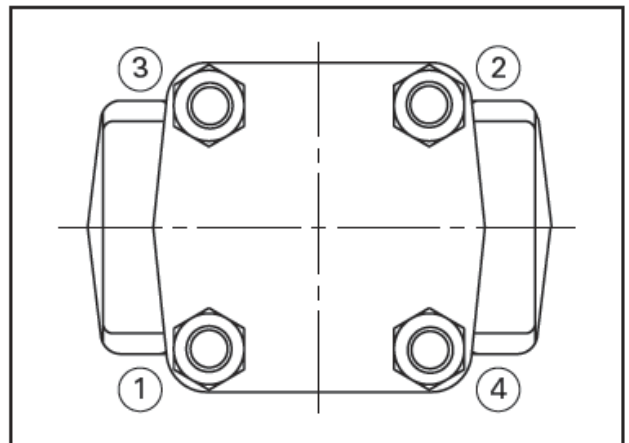

Figure 5.2B Bolt tightening sequence
3. With bolts hand-tight, follow the bolt-tightening sequence shown in *Figure 5.2B*. The sequence depends upon the number of bolts employed and the sketch shows only one possible tightening sequence. The bolts must be torqued to the recommended values shown in *Table 5.2*.